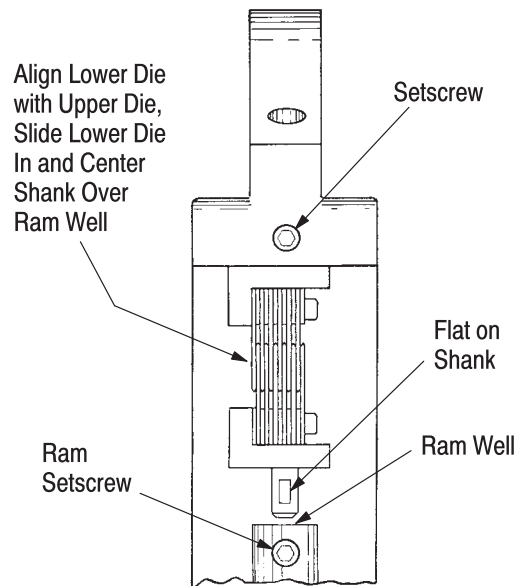

Figure 2
1. Loosen the setscrew in the top of the crimping head and insert shank on upper die, making sure that the shank is facing the setscrew. Refer to Figure 2. Tighten setscrew just enough to hold die in place.
5. Align the lower die with the upper die as shown in Figure 2. Insert the shank on the lower die partially into the ram well, making sure the shank is facing the setscrew. Do NOT allow the dies to become disengaged.